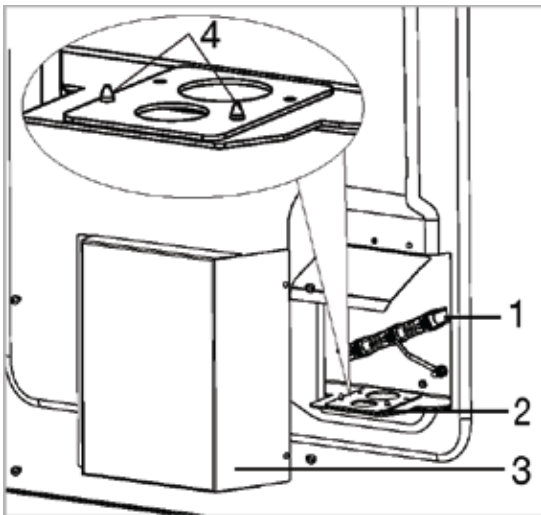

Figure 4
1. Remove the terminal block cover on the back of the range) by removing the screws as shown in figure 4.
2. Remove the power cord/conduit plate (part no 2) shown in figure 4, by removing the two screws that secure it to the range bracket. (Save screws for possible future use.)
1.Remove the terminal block cover (on the back of the range) by removing the screws as shown in Figure 4.